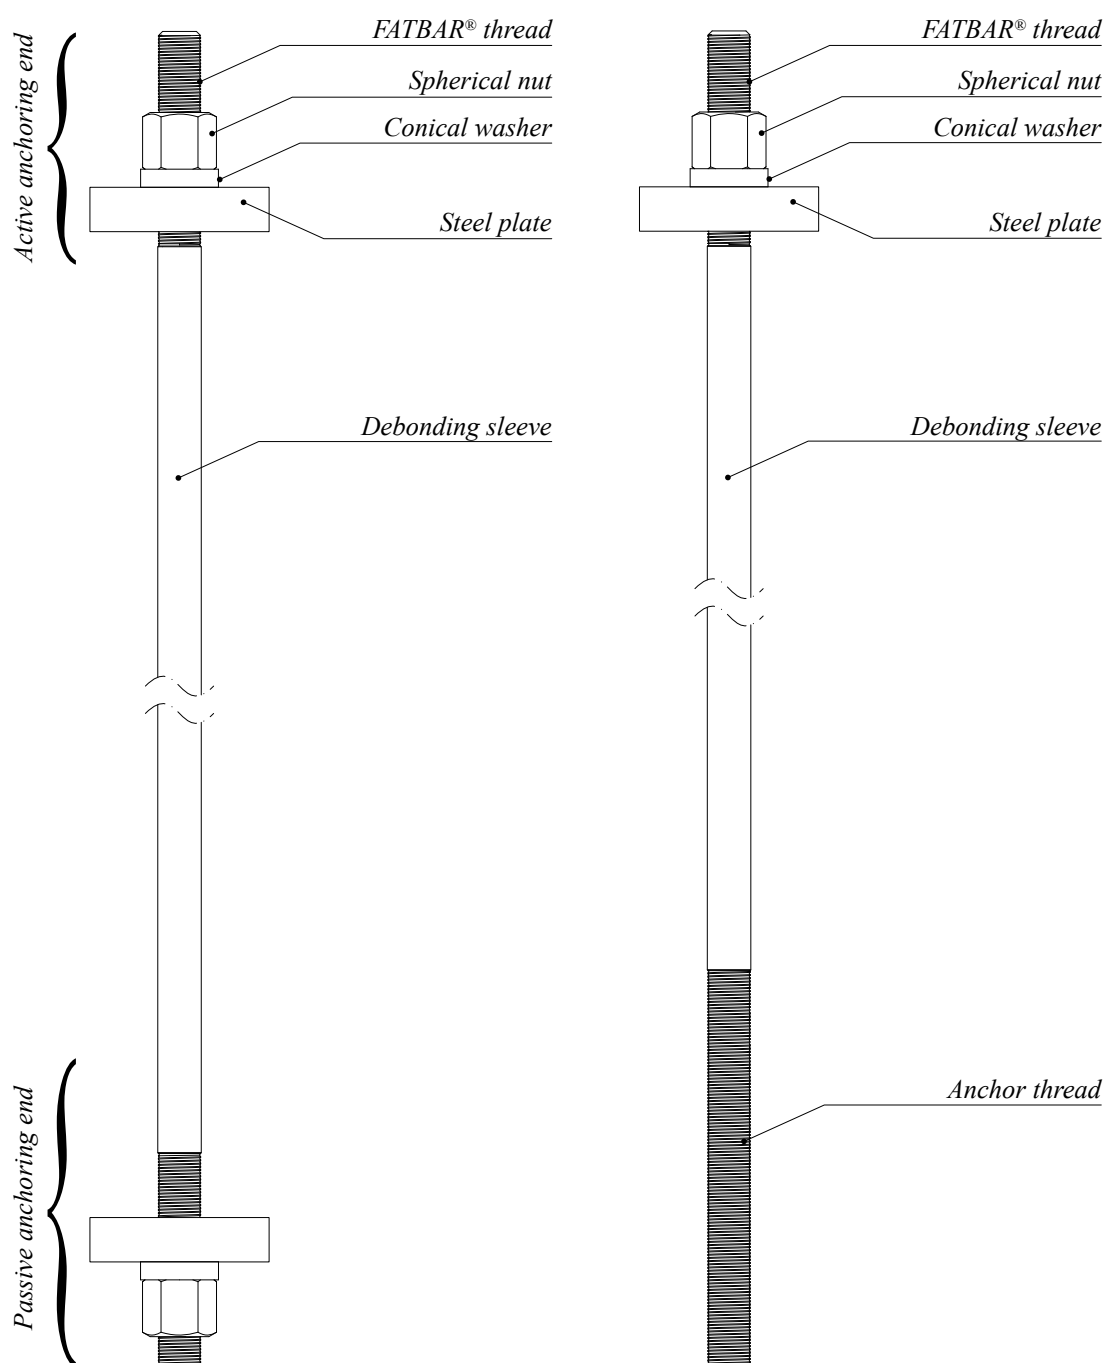

Figure 3. Unbonded and bonded FATBAR®.
- **FATBAR® passive end (either fixed anchorage or bonded length of the bar, see Figure 3)**